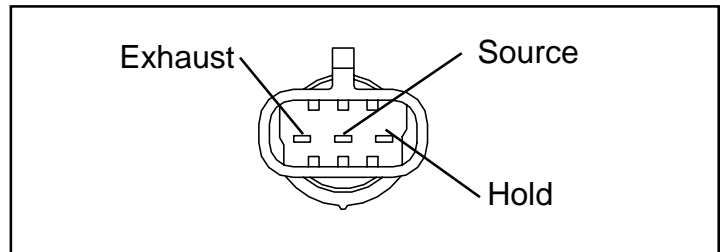

Figure 4 M-21 and M-22 Modulator Connector (on Modulator)
2. Proceed to the modulator in question and inspect its wiring connector. Disconnect the connector and test the resistance between the pins ON THE MODULATOR. Refer to figure 4.